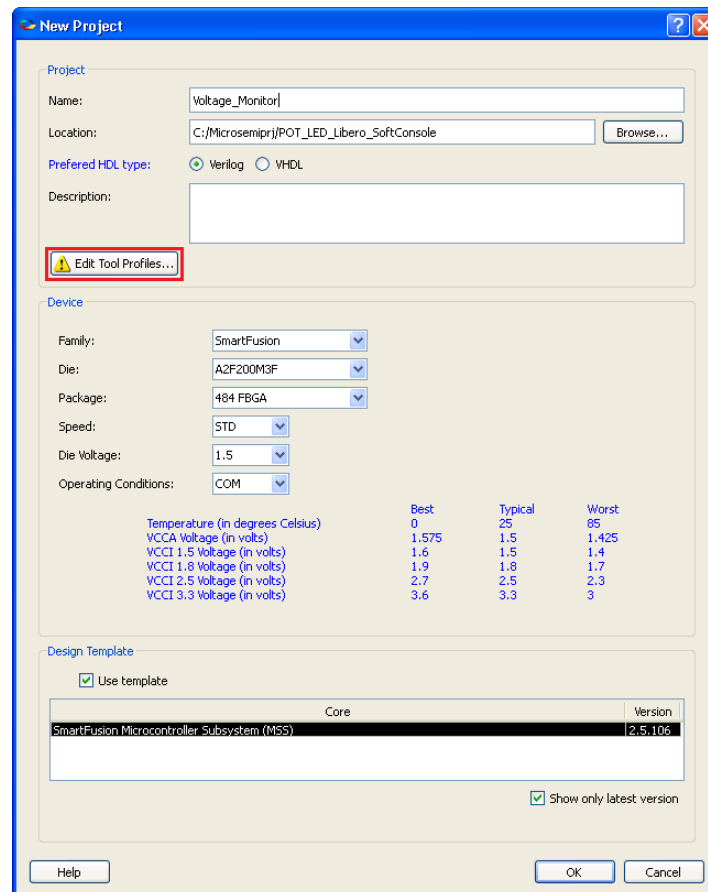

Figure 1 · New project Dialog Box
2. From the **Project** menu, select **New Project**. Enter the information as displayed in Figure 1 . .